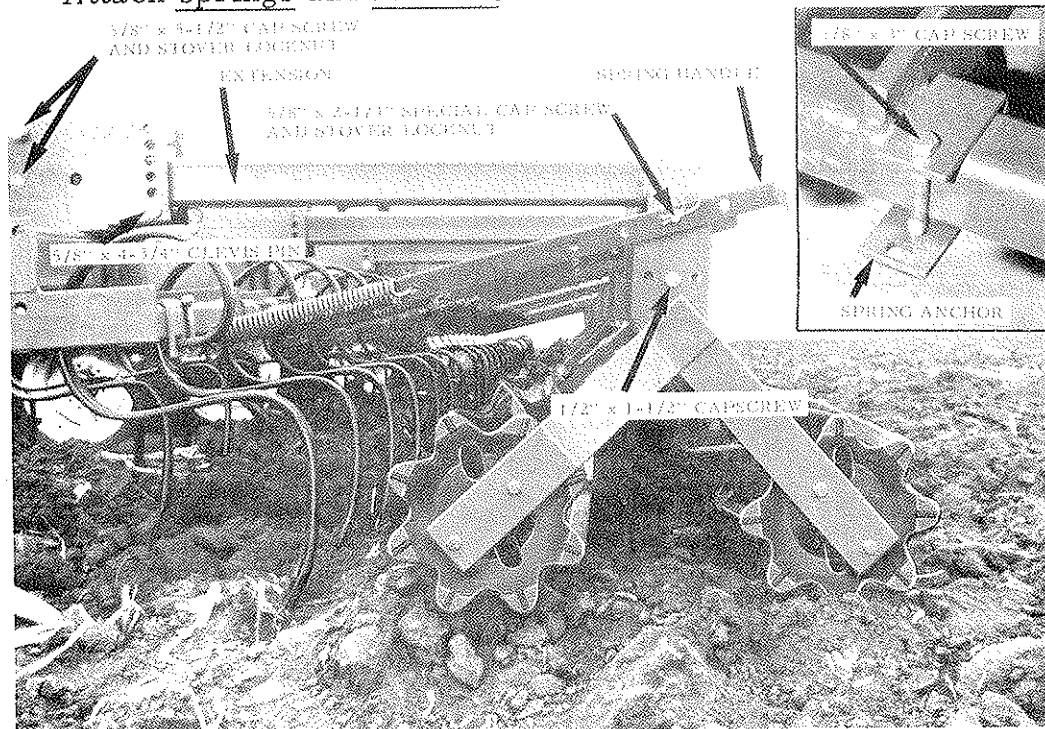

FIGURE 20
3. Attach extensions to mounting brackets with 5/8" x 5-1/2" capscrews and stover lock nuts. Tighten nut so that extension is free to swivel. Install 5/8" x 4-3/4" clevis pins and hair pin cotters. See Figure 20.